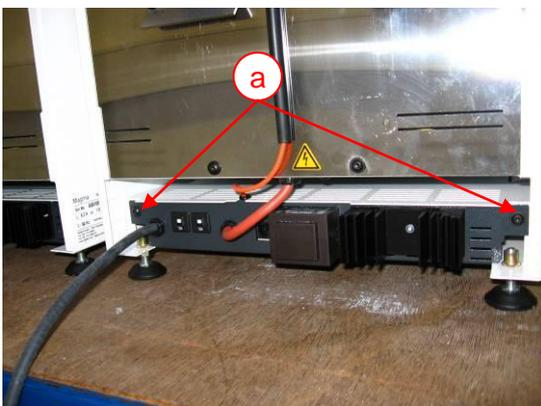

Fig. 22 – fixation of power electronics.
- Remove the 2 fixation screws at the rear side of the unit. (Fig. 22 a)